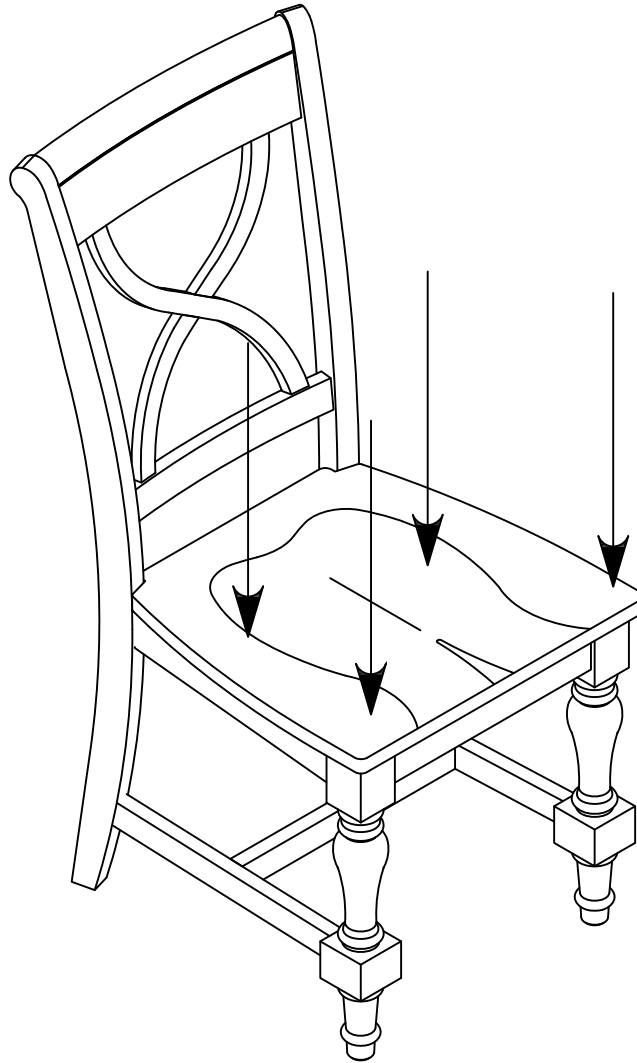

Fig.7
Step 7: Place the loosely assembled chair on a hard flat surface and apply gentle downward pressure on the seat. As shown on Fig.7. Once the chair is balanced and leveled, fully tighten all bolts.